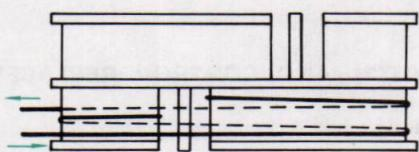

Fig. 2-9. Wrapping the dial cord
2. Run the cord through the slot in the rim of the drum and wrap a clockwise turn in the inner side groove. See Fig. 2-9.
4. Run the cord over pulleys "B", "C" and "D", then wrap one clockwise turn around the drum from outer groove to inner groove as shown in Fig. 2-9.